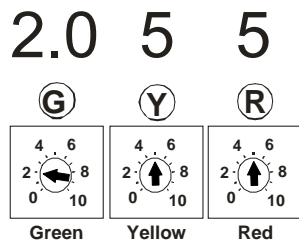
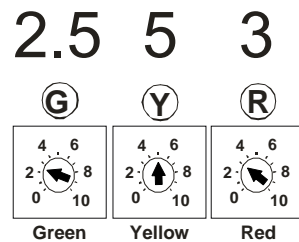

FIGURE 5
FIGURE 6
7. Remove the door from the Fi2000 module to expose the LED's. **NOTE:** The Fi2000 base pot settings come preset from the factory for the Stryker with full exhaust, if a slip-on is used change settings, to those in Figure 6. Verify the wire connections by, (1), turning the ignition on while watching the 3 LED's. They will all light up for a few seconds, and then go off. This is correct. If there are no lights visible, make sure the side stand is up, bike is in neutral, clutch is in and handlebar engine switch is set to run. If there are still no lights visible, re-check that all connectors are fully engaged and the ground wire is connected correctly. (2), after achieving a steady light from all three LED's, start the motorcycle; the green light should now be the only LED on. If all three LED's are still on after start up, verify the injector connectors are correctly attached. Reattach the access door when finished.
The Fi2000R has the ability to efficiently tune the EFI system on your motorcycle for slip-on or full exhaust systems. Your Cobra Fi2000 fuel injection module has been tested and preset for best function and rideability on a motorcycle with aftermarket air cleaner and Cobra full exhaust, settings shown in Figure 5, if your motorcycle is using the Cobra slip-on exhaust, please change the settings to those in Figure 6. Both dyno testing and on-road exhaust gas analysis have been used to develop the best base settings for drivability and power. Not all slip-on mufflers flow exactly the same. Some are made with street baffles, other with race or competition baffles. Full exhaust systems offer even greater variation in construction, features and performance. The Fi2000R has the ability to tune the EFI system on your motorcycle to any of these exhausts by applying a logical and systematic approach to altering the base settings supplied with your Fi2000R. These suggestions should be followed step by step and help you achieve success, should the motorcycle not run optimum with the settings provided.